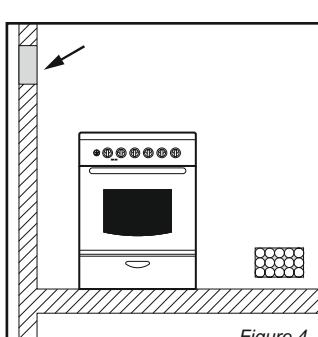

Figure 4
- If it is impossible to install a hood, an electric extraction fan should be fitted in a wall or a window opening out of doors (Figure 4)